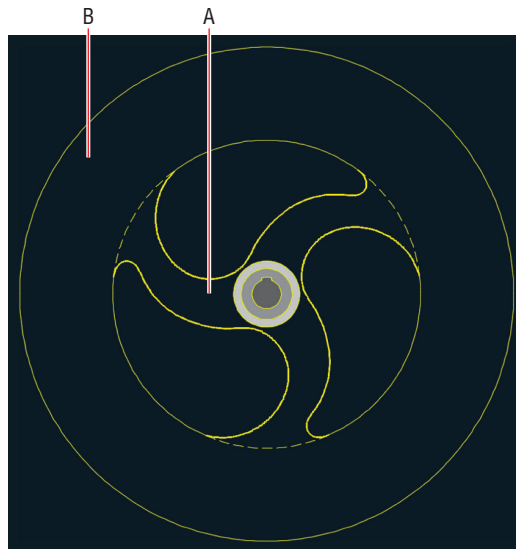

FIGURE 8.6 Picking points on the rotor
15. Click the Hatch tool on the Draw panel and then click point A in Figure 8.6.
17. Type H (for Hatch) and press Enter. Click point B shown in Figure 8.6. The command prompt reads as follows: